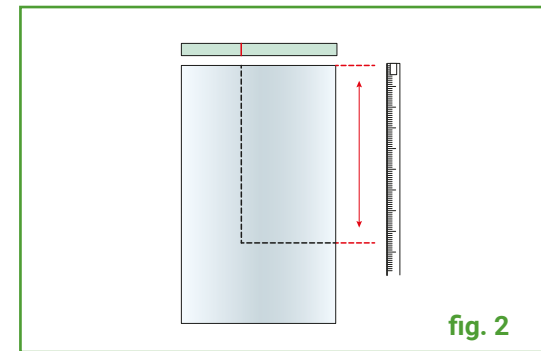

fig. 2
- Using these two measurements, trace and cut out the insulating material. (**fig. 2**)